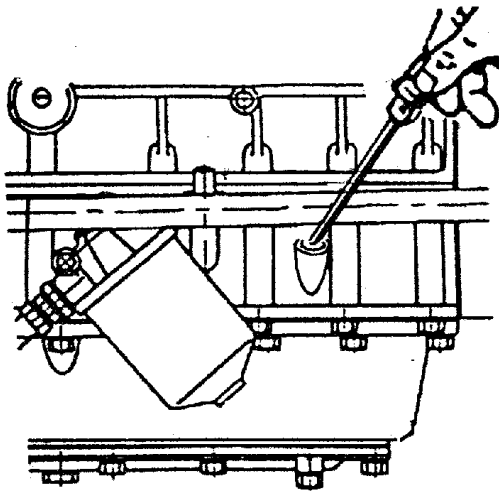

Fig.4-4
(1). Check with oil dipstick the lubricating oil level of engine sump and gearbox, which necessarily remains between the upper and lower scale lines (Fig.4-4 and 4-5). For the four-wheel-drive tractor, it is necessary to check with oil dipstick the oil level of the front axle (front axle in level position), which exists within 5 mm above or below the dipstick scale line. Besides, sufficient cooling water and fuel are needed by the radiator and the fuel tank.